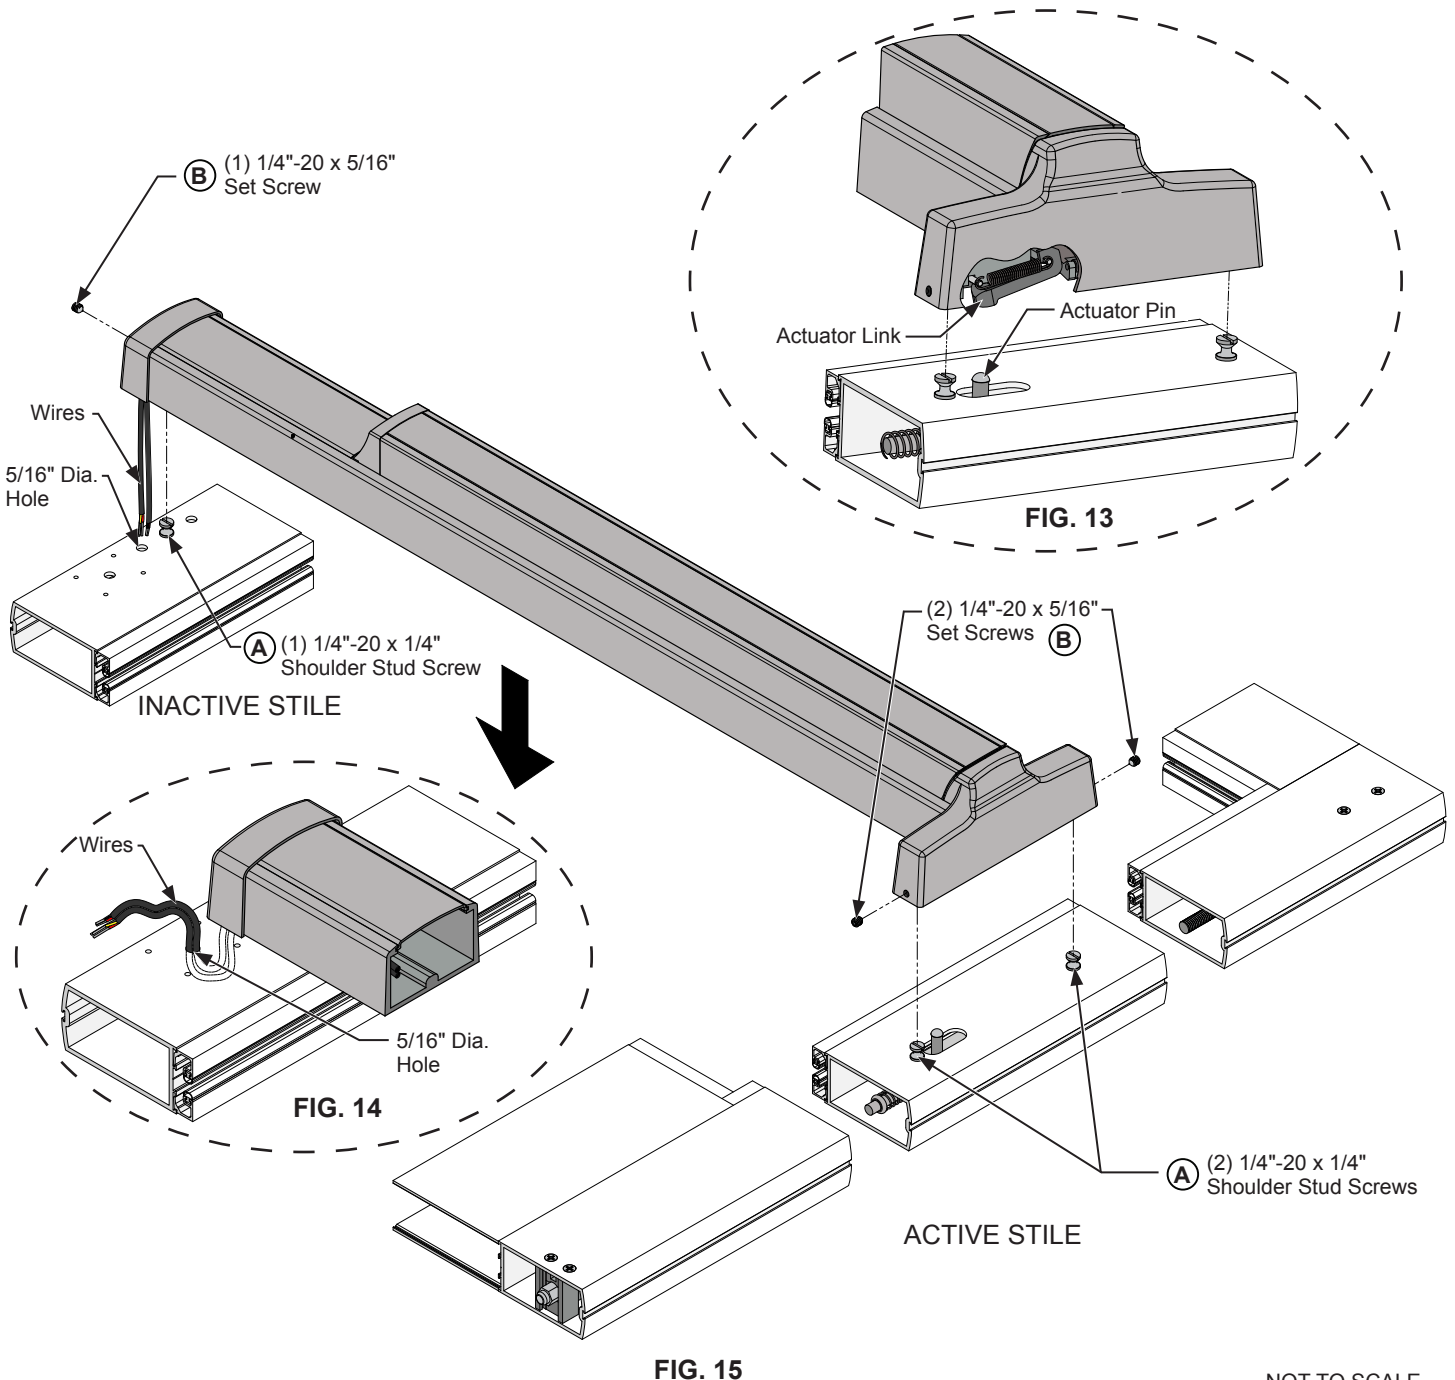

FIG. 15
2. Install the exit device on the door stiles as you feed the wires through the upper 5/16" hole. Tighten the (B) (3) 1/4"-20 x 5/16" set screws and on each side of the door stiles. (Fig. 15)